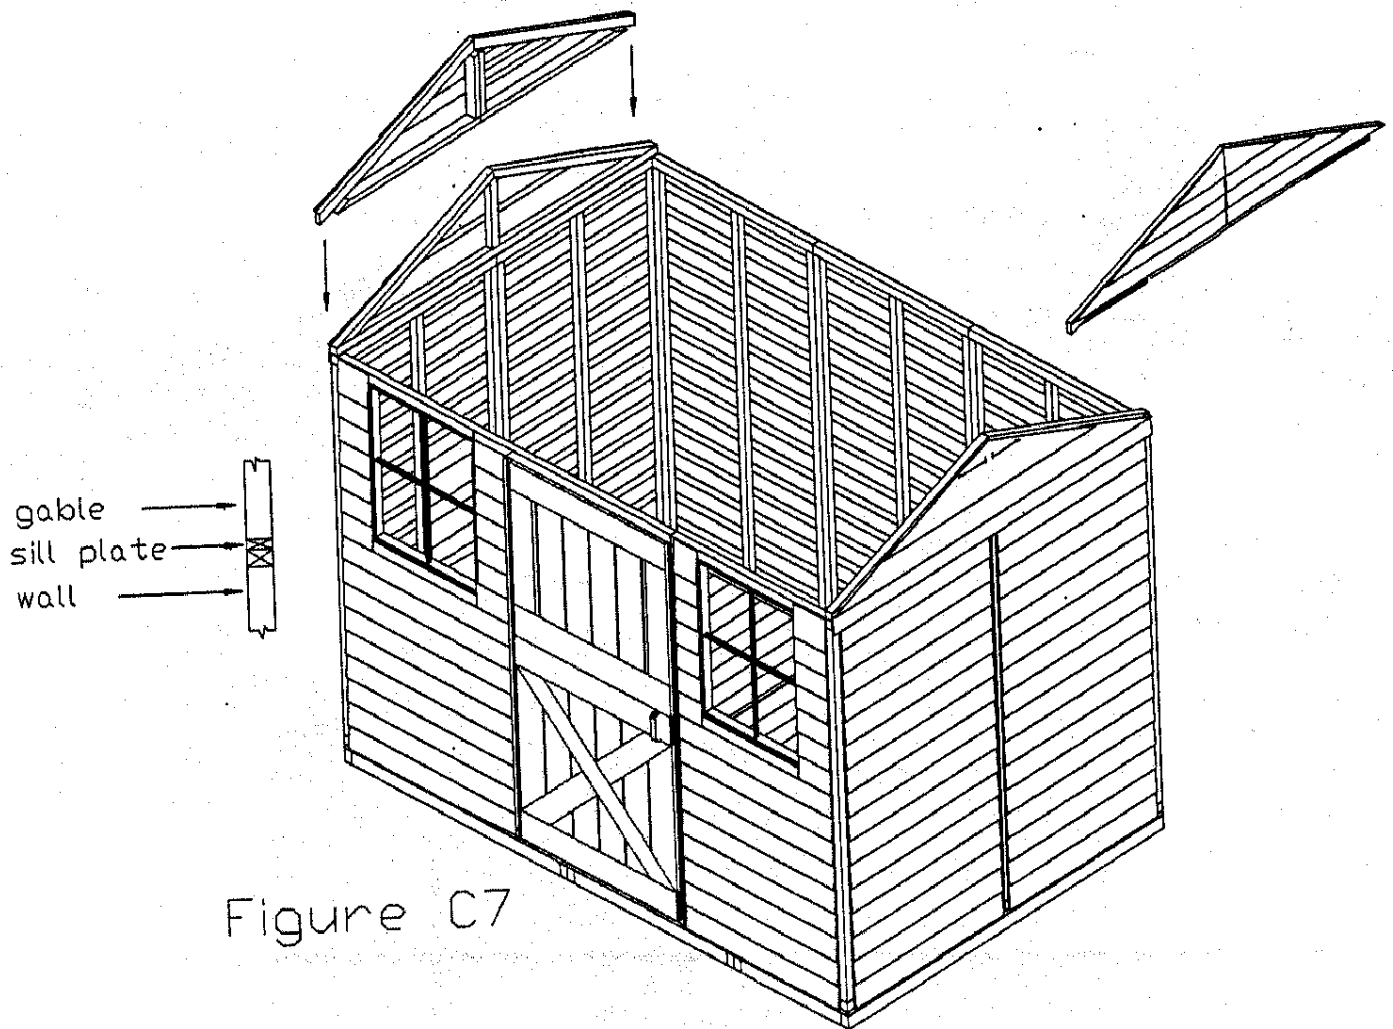

Figure C7
8. Position the gable wall on top of the top plate of the front and back of the Cabana. The 2x3 frame should sit flush on the 2x3 wall frame and 1x3 plate. [See detail in Figure C7]. Use 3" screws.